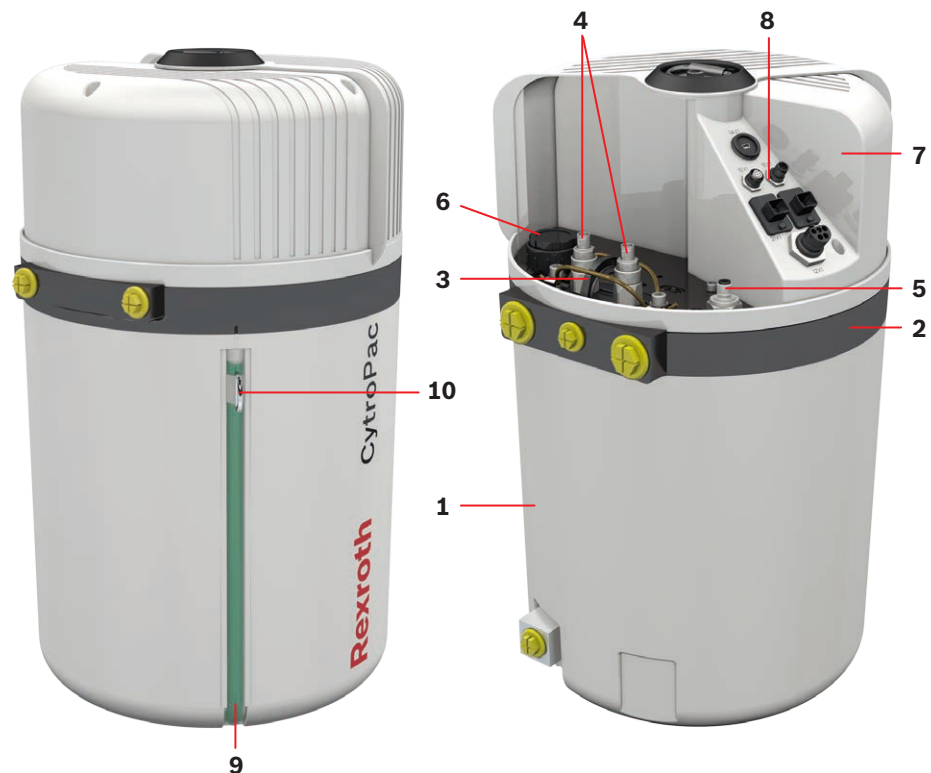

Fig. 1: Component overview
- ▶ Make sure that the cover is turned to "closed position" after cleaning. See also fig. 1, left view.